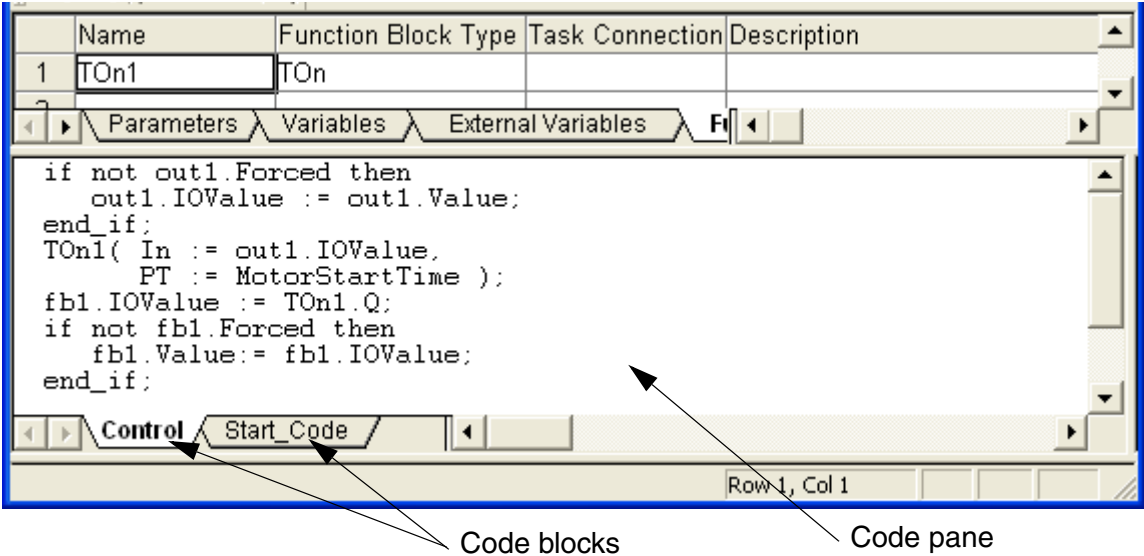

Figure 10. A code pane with two code blocks.
- Programming editor for programming the code using IEC-61131 languages (see Figure 10).
Figure 10 shows a part of the code pane of a control module type editor. This code block uses Structured Text (ST) as the language. This editor contains two code blocks: Control and Start_Code.